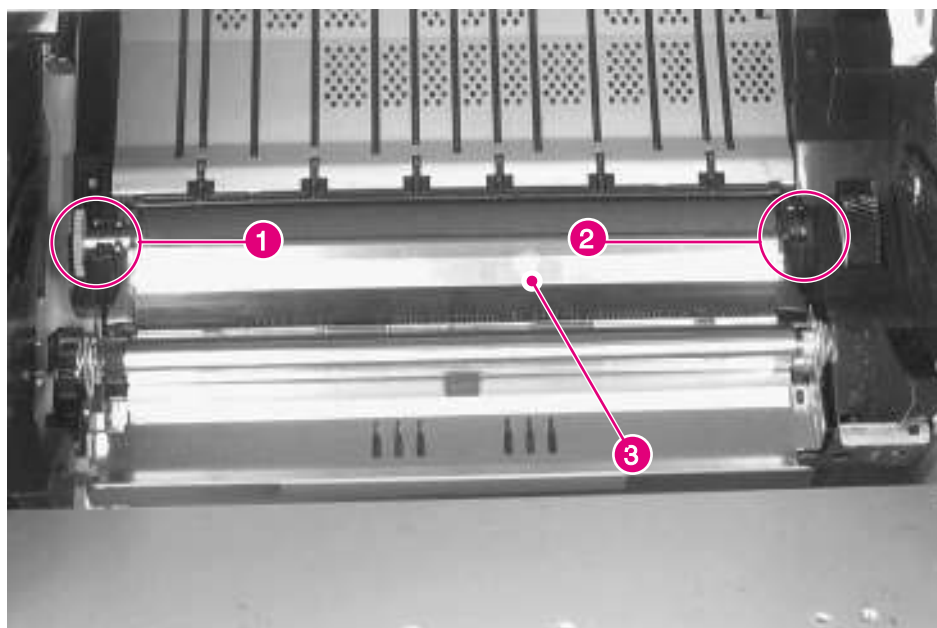

Figure 6-62 **Transfer Roller Assembly**
- 2 Remove the Transfer Roller Assembly (see figure 6-62 on page 337).
- Transfer Roller (see figure 6-62 on page 337)
- 2 Grasp the gear (figure 6-62, callout 1) on the left end, and carefully lift upward just enough to clear the retainer clip.
- 3 Slide the Transfer Roller Assembly to the left to release the shaft on the right end (figure 6-62, callout 2).
- 2** Hold the Transfer Roller wiper up (figure 6-62, callout 3) and slide the assembly to the right until the gear on the left end is in position.
- 4** Press the Transfer Roller wiper down (figure 6-62, callout 3) until the retaining clips snap into place.